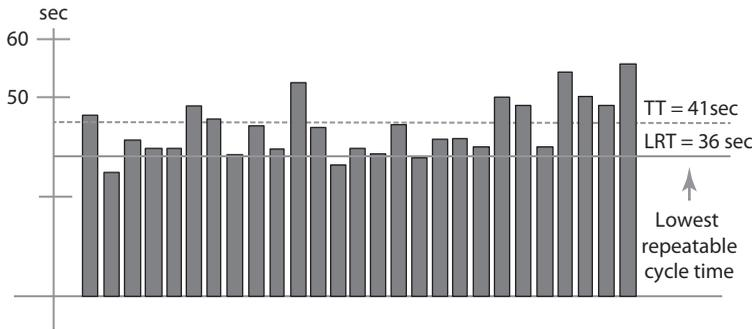

Figure 8.16 Example of operator cycle time chart.
- *Process analysis*: Cycle times of each operator can be plotted on a graph relative to takt time and planned cycle time. In doing so, you will be able to visually assess the stability of a process and its current ability to produce to takt time and planned cycle time. In addition, you can look for several repeatable points at the low end of the cycle time chart and draw a straight line through them. This becomes your lowest repeatable value and an indication of your current process capability under stable conditions (Figure 8.16).